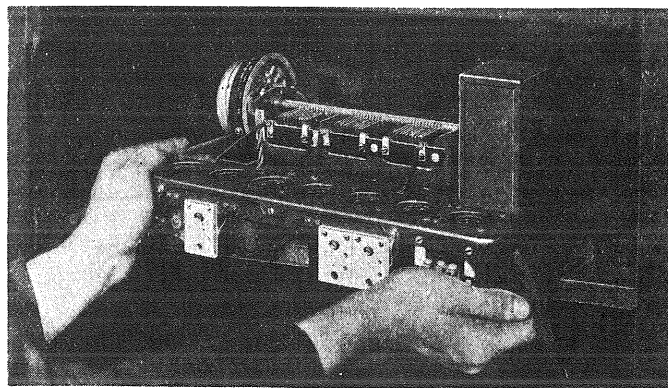

Figure 26—Removing receiver chassis from cabinet
- (h) The receiver assembly may now be lifted clear of the supports and removed from the cabinet. See Figure 26.